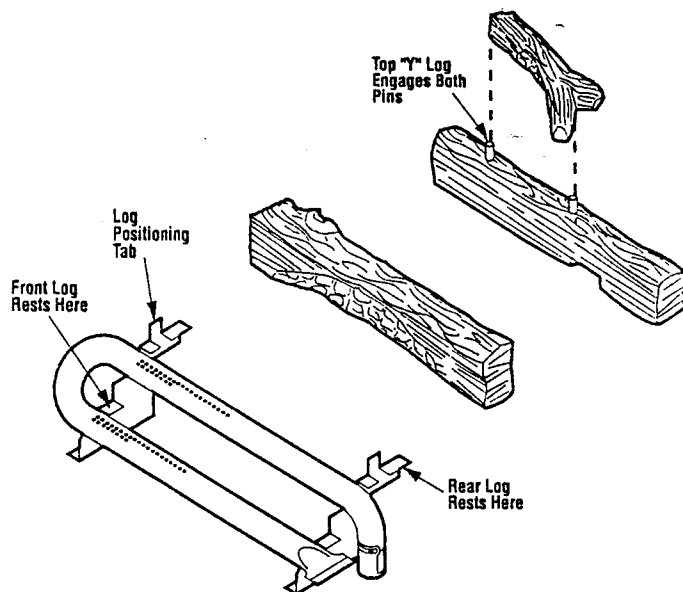

Figure 31
**Step 7. Installing Logs** – The logs are packaged in bubble wrap and placed within the firebox. Carefully position and center the fiber logs onto the burner with the scalloped and charred log in front and the smaller log in the back. Engage the two (2) holes on the bottom of the rear log onto the position tabs of the burner assembly, refer to *Figure 31*. There should be a  $\frac{1}{2}$ " (13 mm) gap between the rear log and the back wall of the firebox. Place the smaller fiber "Y" log across the two (2) lower logs in the manner illustrated. The flames should not impinge on the logs.